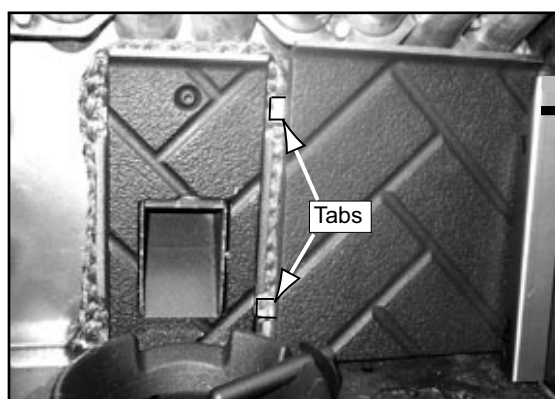

Figure 34.4
1. Place right brick in behind the right bracket, and then slide to the left so the tabs are behind the center brick. **Figure 34.4**